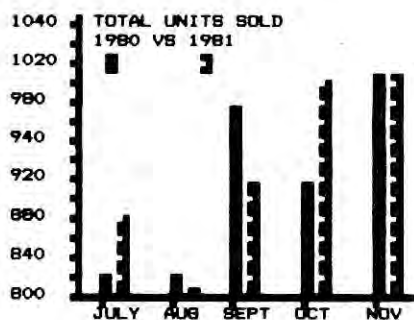

Fig. 5. Bar graphs for typical business presentation
G.E.A.P. may appear to be a game creator or a toy rather than a workable tool. That's not the case. Figure 5 shows two styles of the same bar graph, both created for business presentations. As in the gaming and artistic aspects, G.E.A.P. is limited in business applications only by the user's imagination.